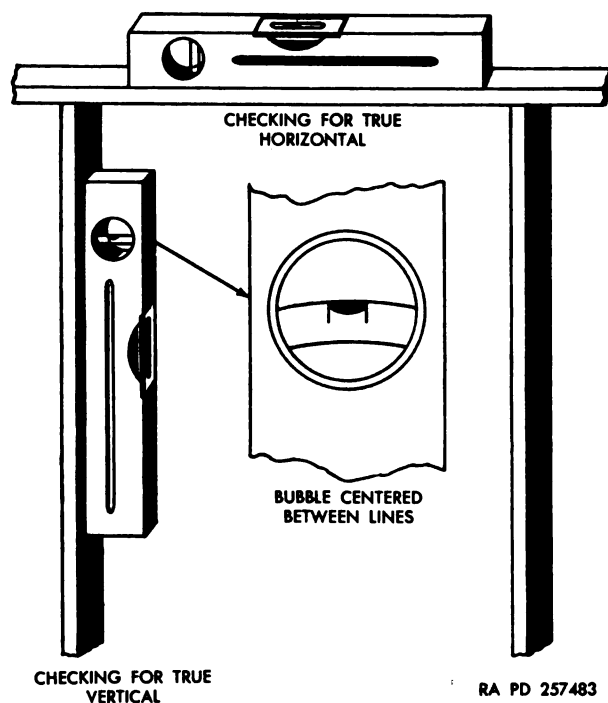

Figure 13. Horizontal and vertical use of level.
a. *Checking for True Horizontal.* Choose the longest level most convenient for the job. After positioning level horizontally on work, note vial or graduated tube for proper indication. Ground glass vials usually have 2 or more etched lines on the glass. For true horizontal, bubble should be centered between lines; on graduated vials, proper indication is dependent on the accuracy required. The bubble should be centered between divisions on the vial that indicate desired position of work. See figure 13 for use of level.
b. *Checking for True Vertical.* With the level placed vertically against the work, check for true vertical (plumb) by observing position of the cross-vial bubble. Bubble should be centered between lines on vial (fig. 13).